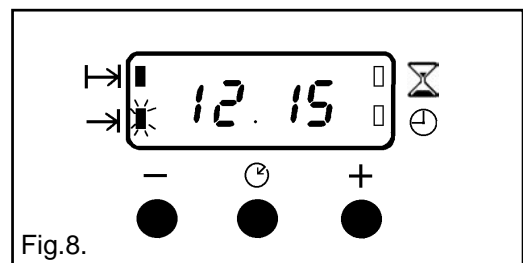

Fig.8.
- v) To set the 'End Time'. Press the Selector Control button until the 'End Time' () indicator flashes. Press the increase control (+) until the required stop time is displayed, e.g. 12.15 p.m. as Fig. 8. If necessary press the decrease control (-) until the correct time interval is achieved.